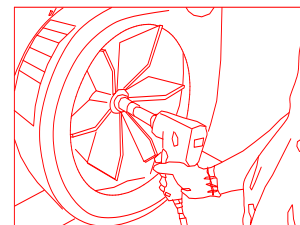

Fig. 7
2. Disconnect the negative battery cable (black) (item 89) from the battery.
5. Remove the intake housing assembly (item 11) using 9/16" socket and socket wrench to remove (12) locknuts (item 55). Be careful to place intake assembly to the side without putting excess strain on safety switch wire harness.
6. Remove impeller bolt and lock washer by using an impact wrench (see Fig. 7).